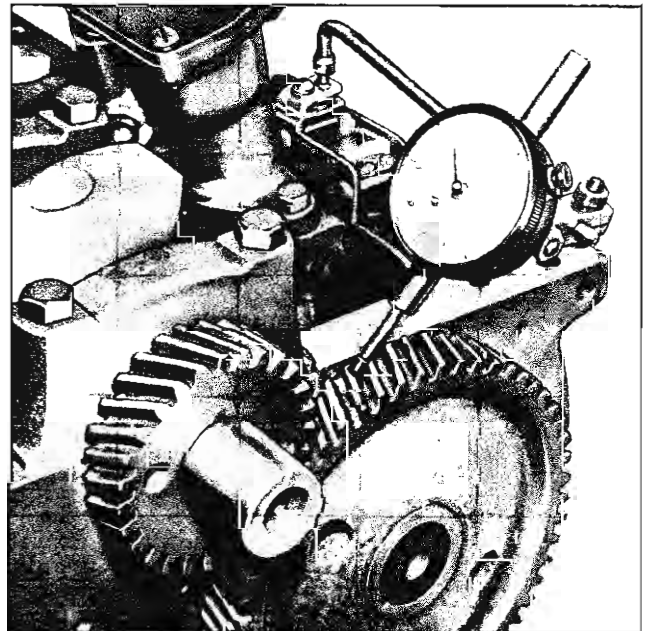

Fig. 37—Checking Timing Gear Backlash
5. Check the backlash between the timing gear teeth with a narrow feeler gauge (fig. 37). The backlash should not be less than .004" nor more than .006".